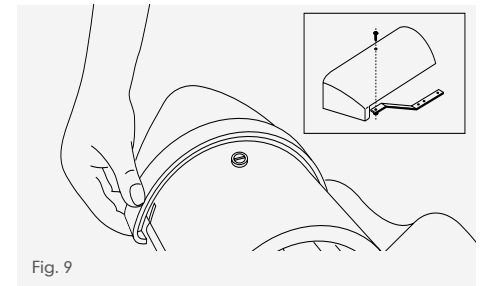

Fig. 9
- 18 Locate block end hip tile and assembly onto top of circular beads of dry hip batten section, and fix end of bracket to hip rafter using two 75mm x 10g stainless steel drive screws (Fig. 9).